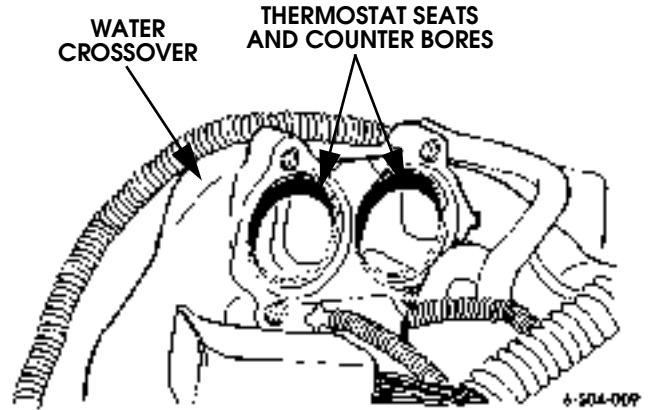

Figure 4-24: Thermostat Location in Crossover
5. Position new thermostats in crossover housing (Figure 4-24). Be sure thermostat seals are seated in counterbores. Wax pellet end of each thermostat goes toward engine.